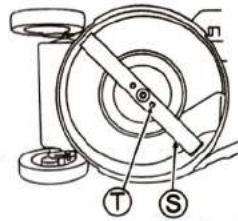

Fig. 38
2. If Blade (S) or its mounting bolts (T) are "worn", "broken" or "deformed", exchange with new one(s) specified by us.
3. Confirm that Blade mounting bolts (T) are tightened by the specified torque. (See Fig. 38)
2. Fully tighten Blade mounting bolts (T) with hand.
4. Confirm that Blade mounting bolts (T) are tightened by the specified torque. (See Fig. 38)